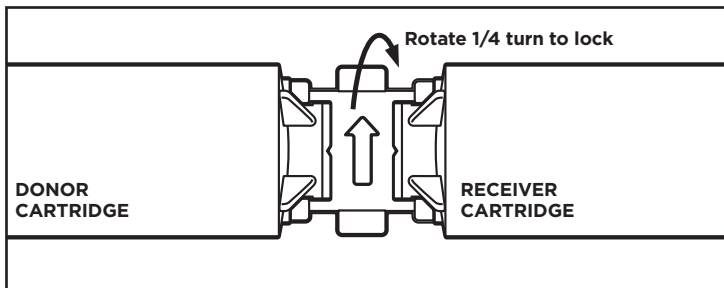

Figure 3. Turn coupler firmly in direction of arrow until it locks.
4. Turn coupler firmly in direction of arrow until it locks (Figure 3).